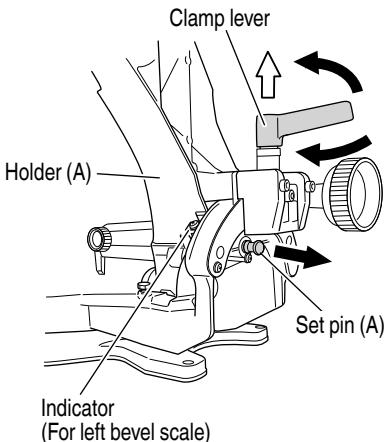

Fig. 36
## 8. Bevel cutting procedures (Fig. 36)
- (1) Loosen the clamp lever and bevel the saw blade to the left or to the right. When tilting the motor head to the right pull the set pin (A) towards the rear. The clamp lever adopts a latchet system. When contacting the work bench and the main body, pull the clamp lever in the direction of the arrow mark as illustrated in Fig. 36, and change the direction of the clamp lever.
- (2) Adjust the bevel angle to the desired setting while watching the bevel angle scale and indicator, then secure the clamp lever.